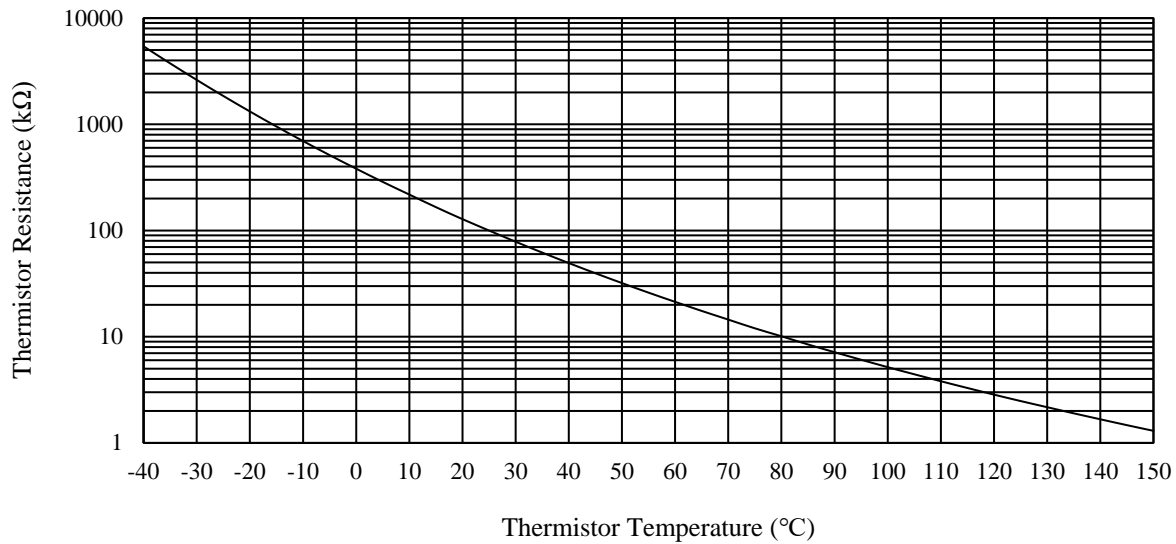

Figure 4-4. Reference Thermistor Resistance
(2) For the reference thermistor resistance, see Figure 4-4 and Table 4-1.